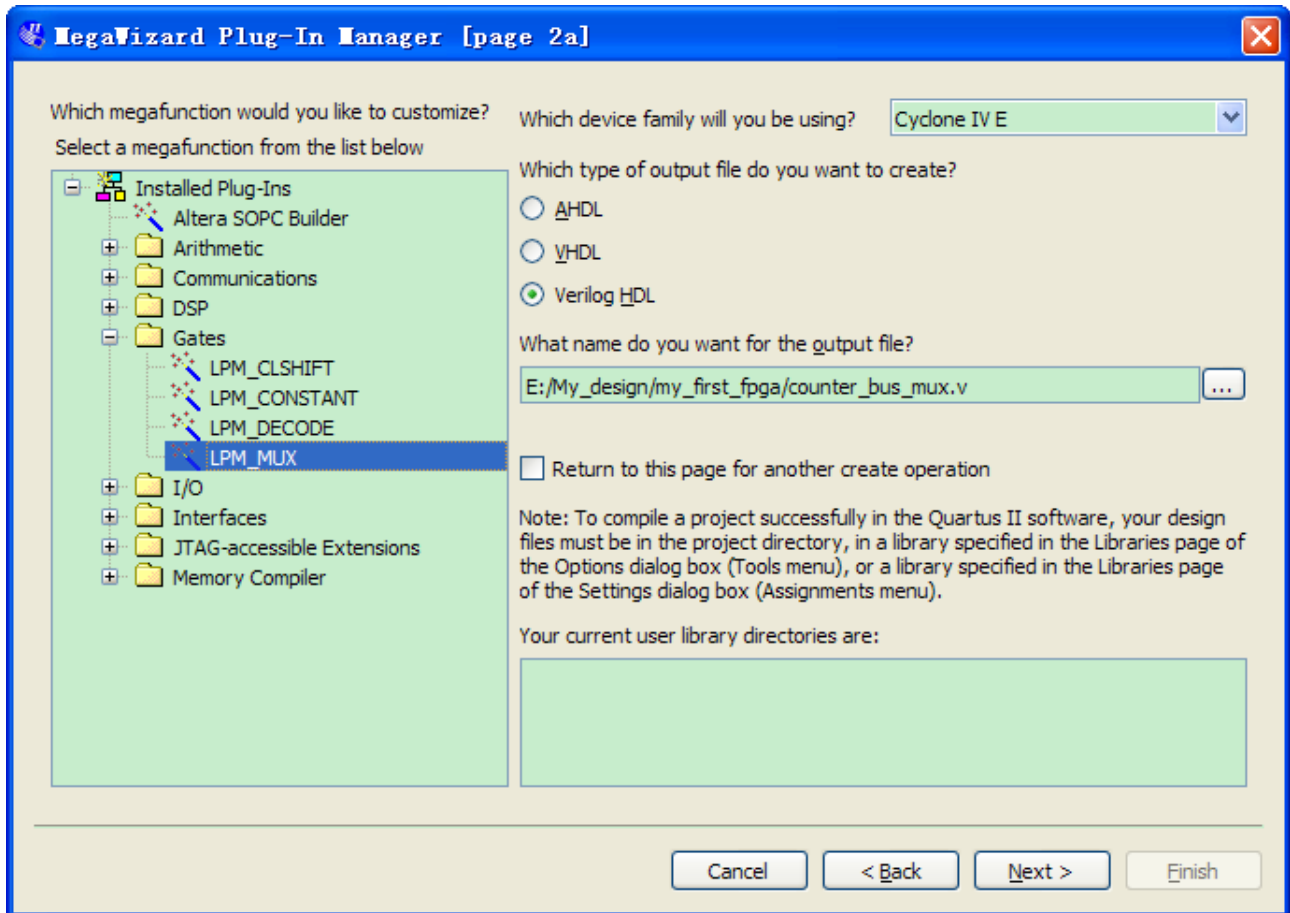

Figure 6-33 Selecting lpm_mux
5. Choose the device family that corresponds to the device on the development board you are using, choose Verilog HDL as the output file type, and name the output file counter_bus_mux.v (see **Figure 6-33**).